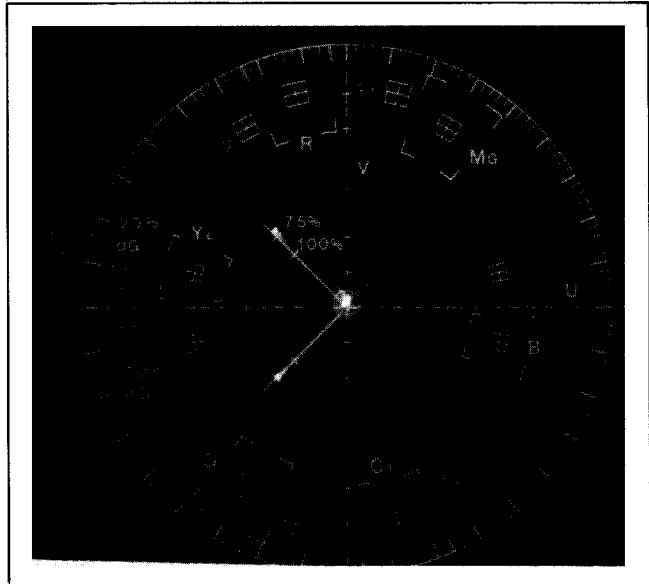

Fig. C22
4. Push [INC] or [DEC] keys until phase of red and yellow vectors are as close as possible to Spec. See Fig.C22.